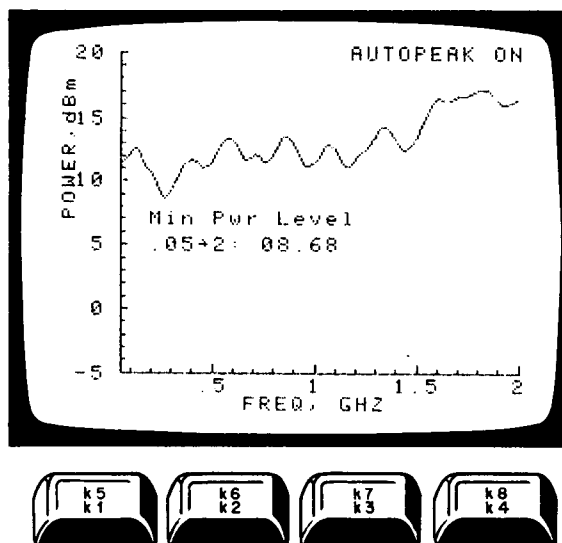

Figure 5-35. Low Band Clamp Response
6. Press K5, LO PWR, to run the test which measures the YTM local oscillator power. A graph as shown in Figure 5-35 will be printed.